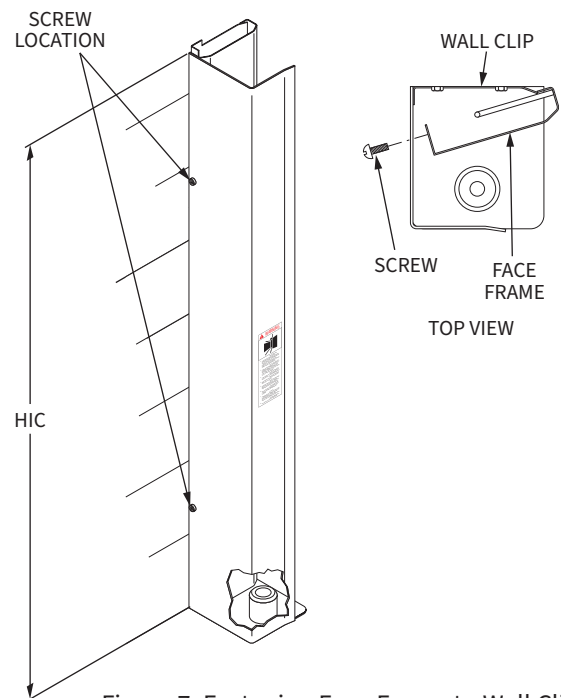
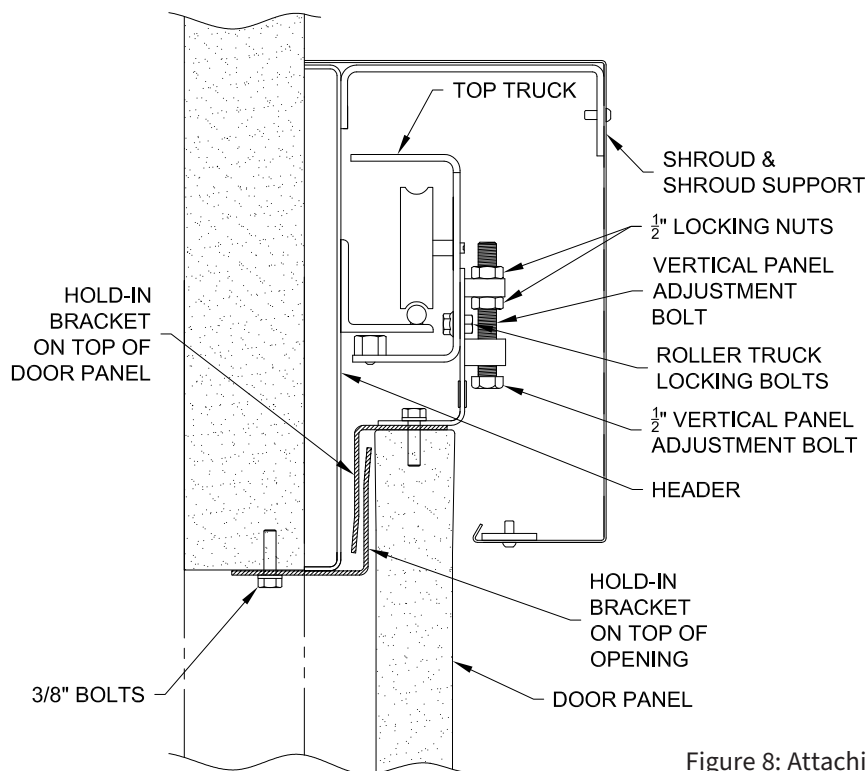

Figure 7: Fastening Face Frame to Wall Clip
Figure 8: Attaching Panel to Header
1. Remove the guide roller mounted at the base of the trailing edge face frame (Figure 7). With roller truck positioned in the center of the rail, slide the panel between the shroud support and roller truck. Lift panel over the roller mount at the base of the trailing edge face frame. Secure door panel to the roller truck with two vertical panel adjustment bolts ($1/2"$ - $13 \times 3"$). Install four roller truck locking bolts ($3/8"$ - $16 \times 3/4"$). Tighten roller locking truck bolts all the way down and then back them off one full turn (Figures 8 & 9).
6. Move door panel to closed position. Center door panel on lower truck by loosening horizontal panel adjustment bolts, moving the bolts to the middle of their slots and tightening them down (Page 10, Figures 8 & 9). At this time, hold-in brackets on door panel should also be adjusted so their screws are in the centers of their slots.
9. Position hold-in brackets such that the bent lip of the bracket sits between the door panel and its hold-in brackets (Figures 8, 11, & 12).
1. Position the door in the closed position. Loosen the two horizontal panel adjusting bolts securing the door panel to the lower roller truck (Figures 8 & 9). Loosen all screws securing trailing edge hold-in bracket to door panel.